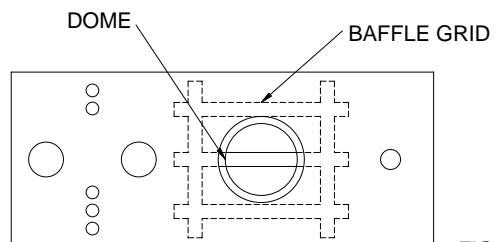

FIGURE 1.2
3. Check proper seating of baffle grid or baffle inside of dome opening (see Figure 1.2).